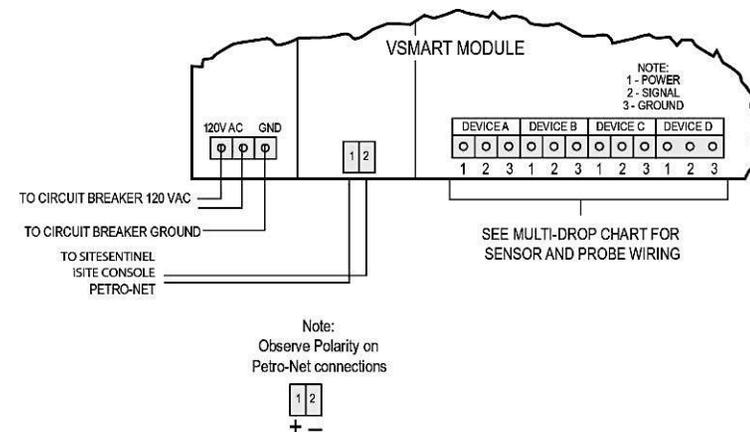

Figure 2-9 VSmart Module Connections
You must remove the Intrinsically Safe barrier panel to attach wiring. VSmart power **must be off** while connecting wires! Connect the *probe* wires and cables according to the following chart (see Figure 2-9 VSmart Module Connections).
1. Pull two AC power wires from the circuit breaker to each module; you may "daisy chain" the wires from module to module, not to exceed the circuit-breaker rating (see Figure 2-9).